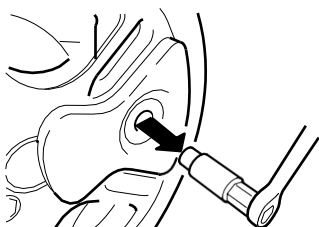

Fig. 7
- Remove the locking bolt socket key. (Fig. 7)